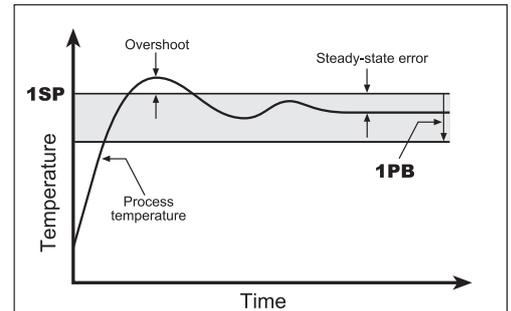

Figure 3 Proportional Control (P) in heating mode
4.4. PID CONTROL. In the PID mode the output is ON for a fraction of the cycle time **1CT**. The cycle time characterises the dynamics of the system to be controlled and influences the accuracy of the control: the higher the system speed of response the shorter the cycle time to obtain greater temperature stability and less sensitivity to variations in load. Assign a negative value to **1PB** to make the output operate in the heating mode (see Figure 3) and a positive value for control in the cooling mode. With **1PB=0** the output is permanently cut out.